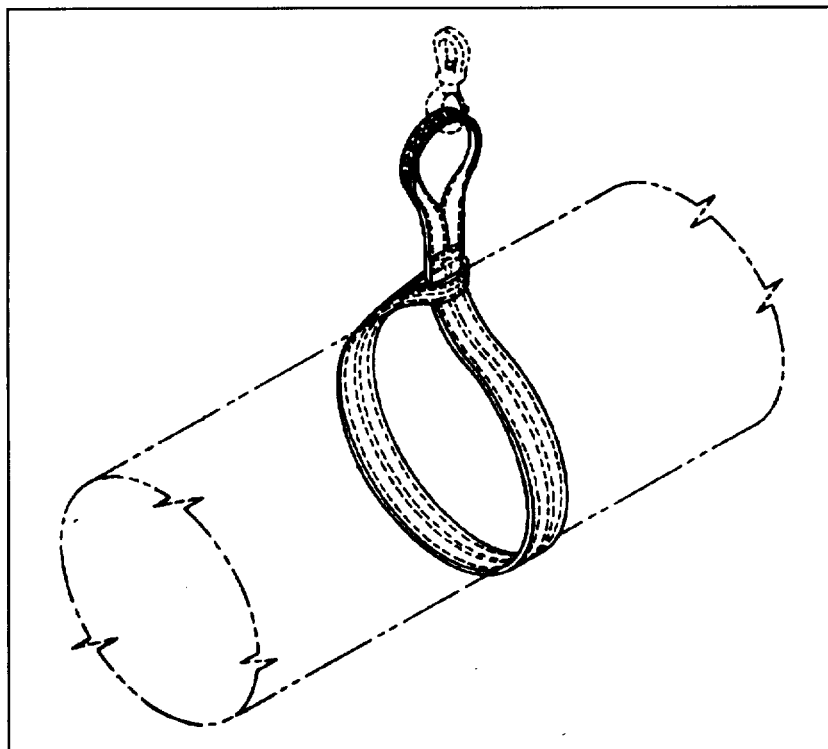

Figure 2-8.—Mk 111 Mod 0 sling.
**MK 111 MOD 0 SLING.**— The Mk 111 Mod 0 sling is constructed in the same manner and of the same materials as the Mk 95 and Mk 101 slings. As shown in figure 2-8, it is a single-wrap sling used for hoisting operations when marrying or disassembling sections of the Mk 67 mine. The sling's lifting capacity is 5,000 pounds.